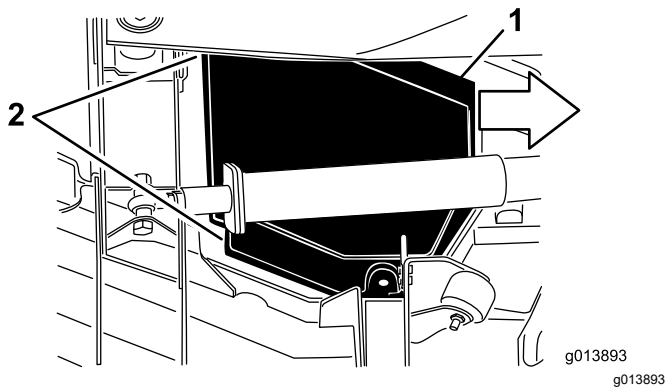

Figure 78
5. While lifting the cover, slide it toward the traction unit approximately 2.5 cm (1 inch) to disengage the outer-cover edge from the deck (Figure 78).